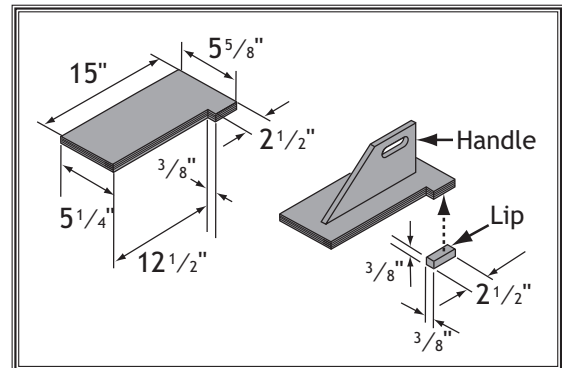

Figure 84. Push block dimensions and construction.
4. Using the $\frac{1}{2}$ " material you used in the previous steps, cut out pieces for the push block per the dimensions shown in **Figure 84**; for the handle, cut a piece 10" long by 5"-9" high and shape it as desired to fit in your hand.